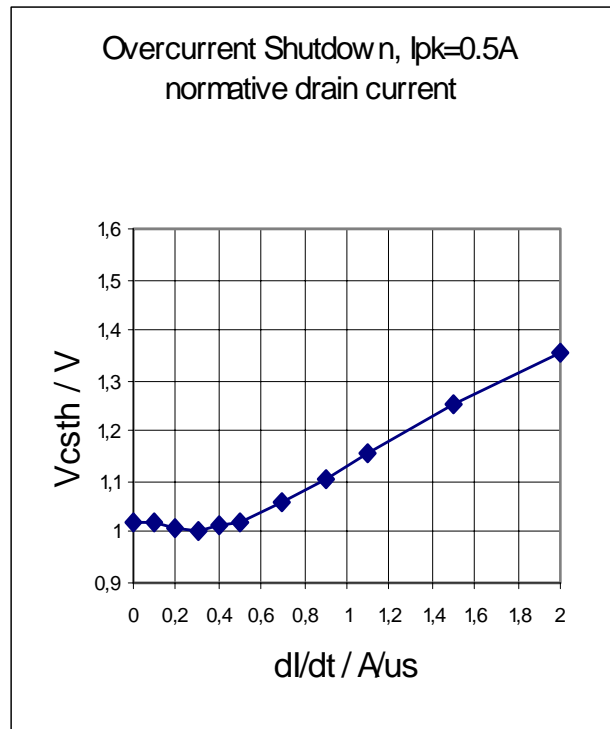

Figure 4
E.g.  $I_{pk}=0.5A$  at  $f_{switch}=100kHz$ . Without propagation delay compensation the current sense threshold is set to  $V_{csth}=1V$ . A current ramp of  $dI/dt=0.4A/\mu s$  and a propagation delay time of  $t_{csth-delay}=180ns$  leads to an  $I_{pk}$  overshoot of 12%. With the propagation delay compensation the overshoot is only about 2%. A current ramp of  $dI/dt=0.1A/\mu s$  leads to an overshoot of 3% in both cases, with and without compensation. For further information see Figure 4 on page 8.